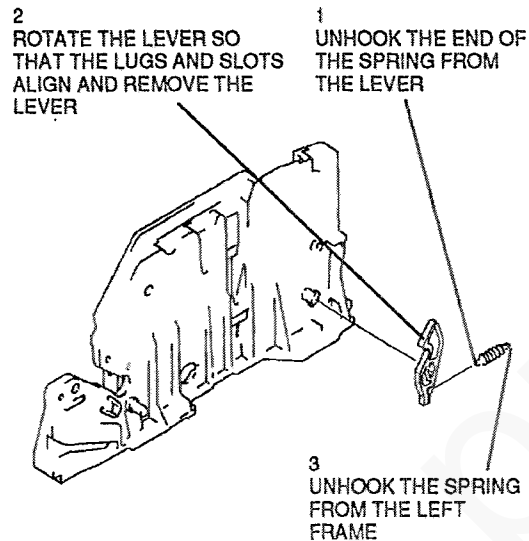

Figure 1. Left print cartridge lever and spring removal
5. (Figure 1) Remove the left print cartridge lever and spring.